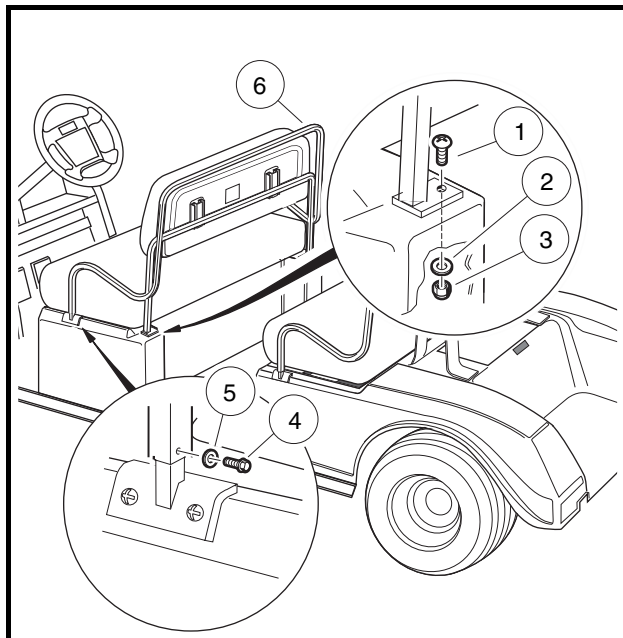

Figure 4-2 Center Body Seat Back Assembly
3. Remove screws (4) and washers (5) from the each side of the hip restraint/seat back assembly (6) (**Figure 4-2, Page 4-3**).
4. Remove the screws (1), lock nuts (3) and washers (2) from each side of the hip restraint/seat back assembly (6).
5. Remove the hip restraint/seat back assembly (6) (**Figure 4-2, Page 4-3**).
2. Tighten screws (4) to 9 ft-lb (12.2 N·m) and screws (1) to 18 in-lb (2.0 N·m) (**Figure 4-2, Page 4-3**).